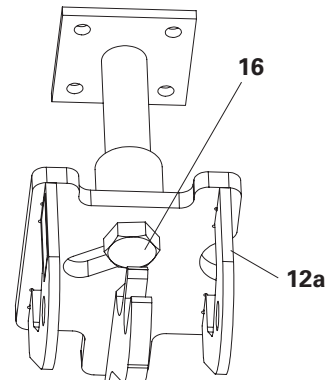

Fig. B1.03b
2. Push Suspension Head Flex VGK (12a) into position and tighten ISO Bolt 4014-M24 x 100-8.8 (16). (Fig. B1.03b)